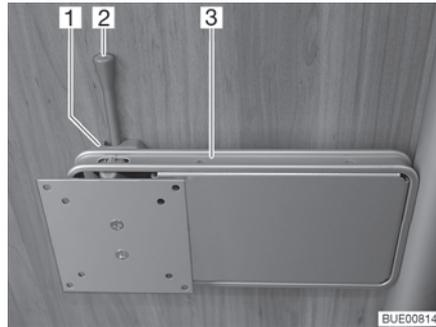

Fig. 90 Holder on the column
- Push the release lever (Fig. 90,2) to the side and turn the holder (Fig. 90,3) with the flat screen to the desired position.
- Turn the flat screen back until the holder (Fig. 90,3) engages in the lock (Fig. 90,1).